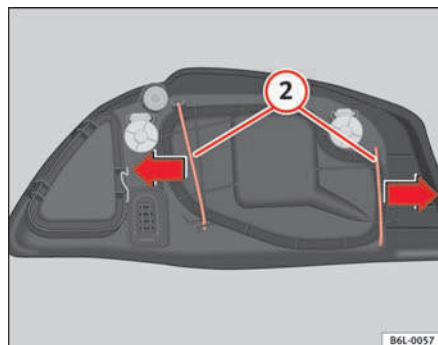

Fig. 144 Main beam lamp
- Remove the loops (2) ⇒ fig. 144 outwards in the direction of the arrow and remove the cover.
- Fit the plastic cover and replace the loops (2) ⇒ fig. 144.